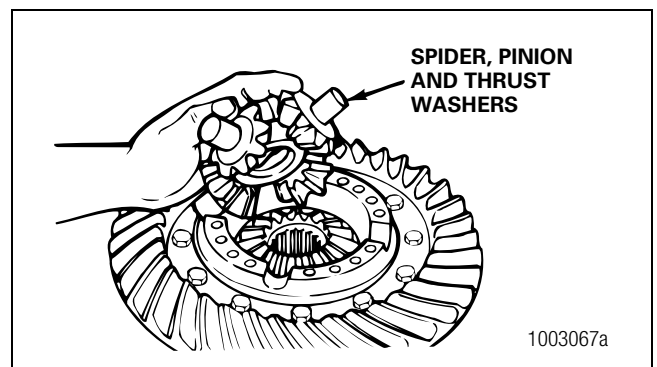

Figure 5.42
12. Install the spider or cross, differential pinions and thrust washers into the flange case half. Figure 5.42.